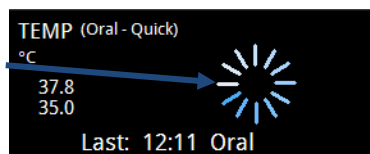

Figure 67: Temp Measurement in-Progress indicator
- 5) The thermometer turns on automatically (refer to Figure 67). This will be indicated by a Temp Measurement in-process indicator and an audio tone.
- 5) The thermometer turns on automatically. This will be indicated by the Temp Measurement in-process indicator and an audio tone (refer to Figure 67).